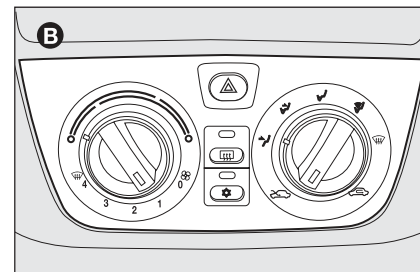

fig. 6
- with manual climate control system **B-fig. 6**;